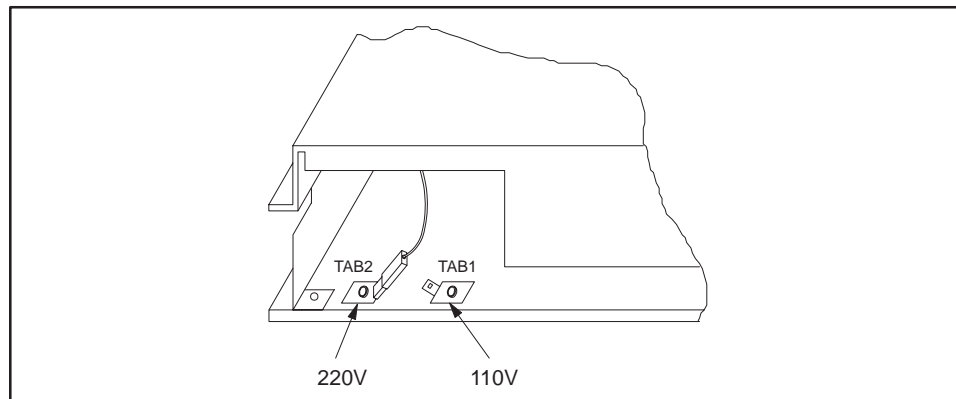

Figure 3-18 Power Supply Jumper
You may operate the PPX:505–6660 or PPX:505–6660A power supply at either 110 or 220 VAC. **The power supply is shipped preset for 220 VAC.** Use the jumper shown in Figure 3-18 to select the proper voltage for your application.
2. Select the proper operating voltage by placing the jumper on the appropriate quick-connect as shown in Figure 3-18. (Not required for the PPX:505–6663 power supply.)